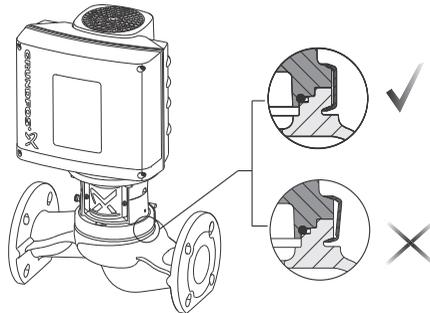

Fig. 11 Positioning of clamp ring
- The clamp must be positioned correctly in the flange recess of both the pump head and the pump housing. See fig. 11.